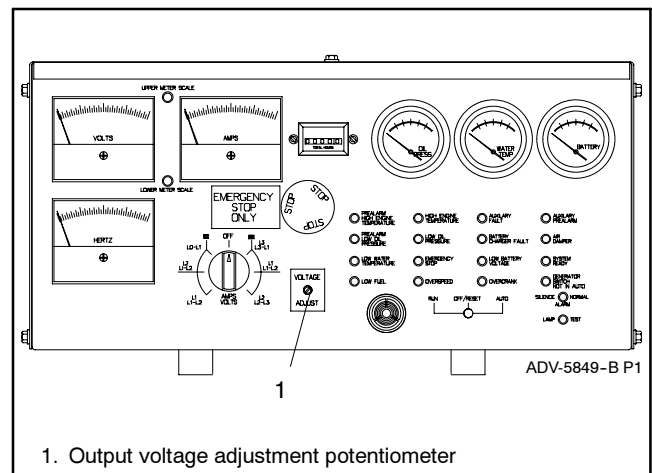

Figure 5-2 Voltage Adjustment
- a. 20–300 kW Models: Adjust the voltage with the voltage adjustment potentiometer on the generator set controller front panel or switchgear. See Figure 5-2.
- a. 20–300 kW Models: Adjust the output voltage with the voltage adjustment potentiometer on the generator set controller front panel or switchgear. See Figure 5-2.